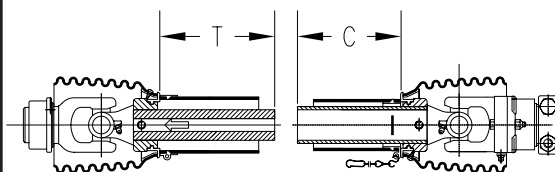

Fig. 4-4
2. Pull apart PTO telescoping shaft ends and measure lengths "T" & "C" (Fig. 4-4)
10. Slide driveshaft down into the universal joint attached to the gearbox until the end of the shaft extends into the universal joint about 2 3/8". Ensure universal joint and driveshaft splines completely engage. Verify the hitch end for adequate length for driveline assembly to connect. (FIG. 4-4)